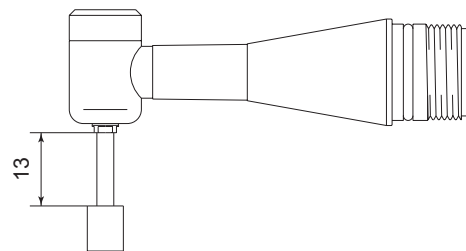

Fig. 1
- ① The Attachment is designed for hand use. Never install the Attachment or any hand tool on a machine such as a special purpose machine, NC lathe or mill.
- ② Do not exceed the " Maximum Allowable Motor Rotation Speed " (Refer to " 6 - 1 Specifications ").
- ③ When sensing that the Attachment and motor / reducer, are overheated during operation, reduce the working force or the motor rotation speed, or stop the operation until the Attachment cools down before restarting.
- ④ Do not touch the cutting tool while it is rotating. It is very dangerous.
- ⑤ Wear safety glasses, dust mask and use a protective cover around the Attachment whenever the Attachment is rotating.
- ⑥ When installing a cutting tool, tighten the collet correctly and check again the collet before use. Do not over-tighten the collet. This may cause damage to the spindle.
- ⑦ Do not use grindstones with an outside diameter over $\phi 20\text{mm}$.
- ⑧ Do not exceed 13mm of overhang for mounted grindstones as shown in Fig. 1. If the overhang must exceed 13mm, reduce the motor speed in accordance with Table. 1.
- ⑨ Do not use bent, broken, chipped, out of round or sub-standard cutting tools as they may cause shatter or explode. The cutting tool with cracked, bended may cause some injury to operator. When using a new cutting tool, rotate it in a low speed and increase speed gradually for safety.
- ⑩ Always operate cutting tools within the cutting tool manufacturer's recommended speed limits. Use of a cutting tool higher than the manufacturer's recommended speed limits could cause damage to the spindle and injury to the operator.
- ⑪ Do not apply excessive force. This may cause cutting tool slippage, cutting tool damage, injury to the operator, loss of concentricity and precision.